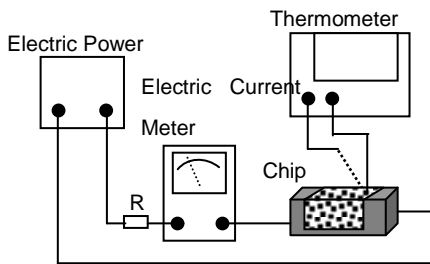

Fig. 5.3.3-1
- d. Definition of Rated Current (Ir): Ir is direct electric current as chip surface temperature rose just 20°C against chip initial surface temperature (Ta) (see Fig. 5.3.3-2)